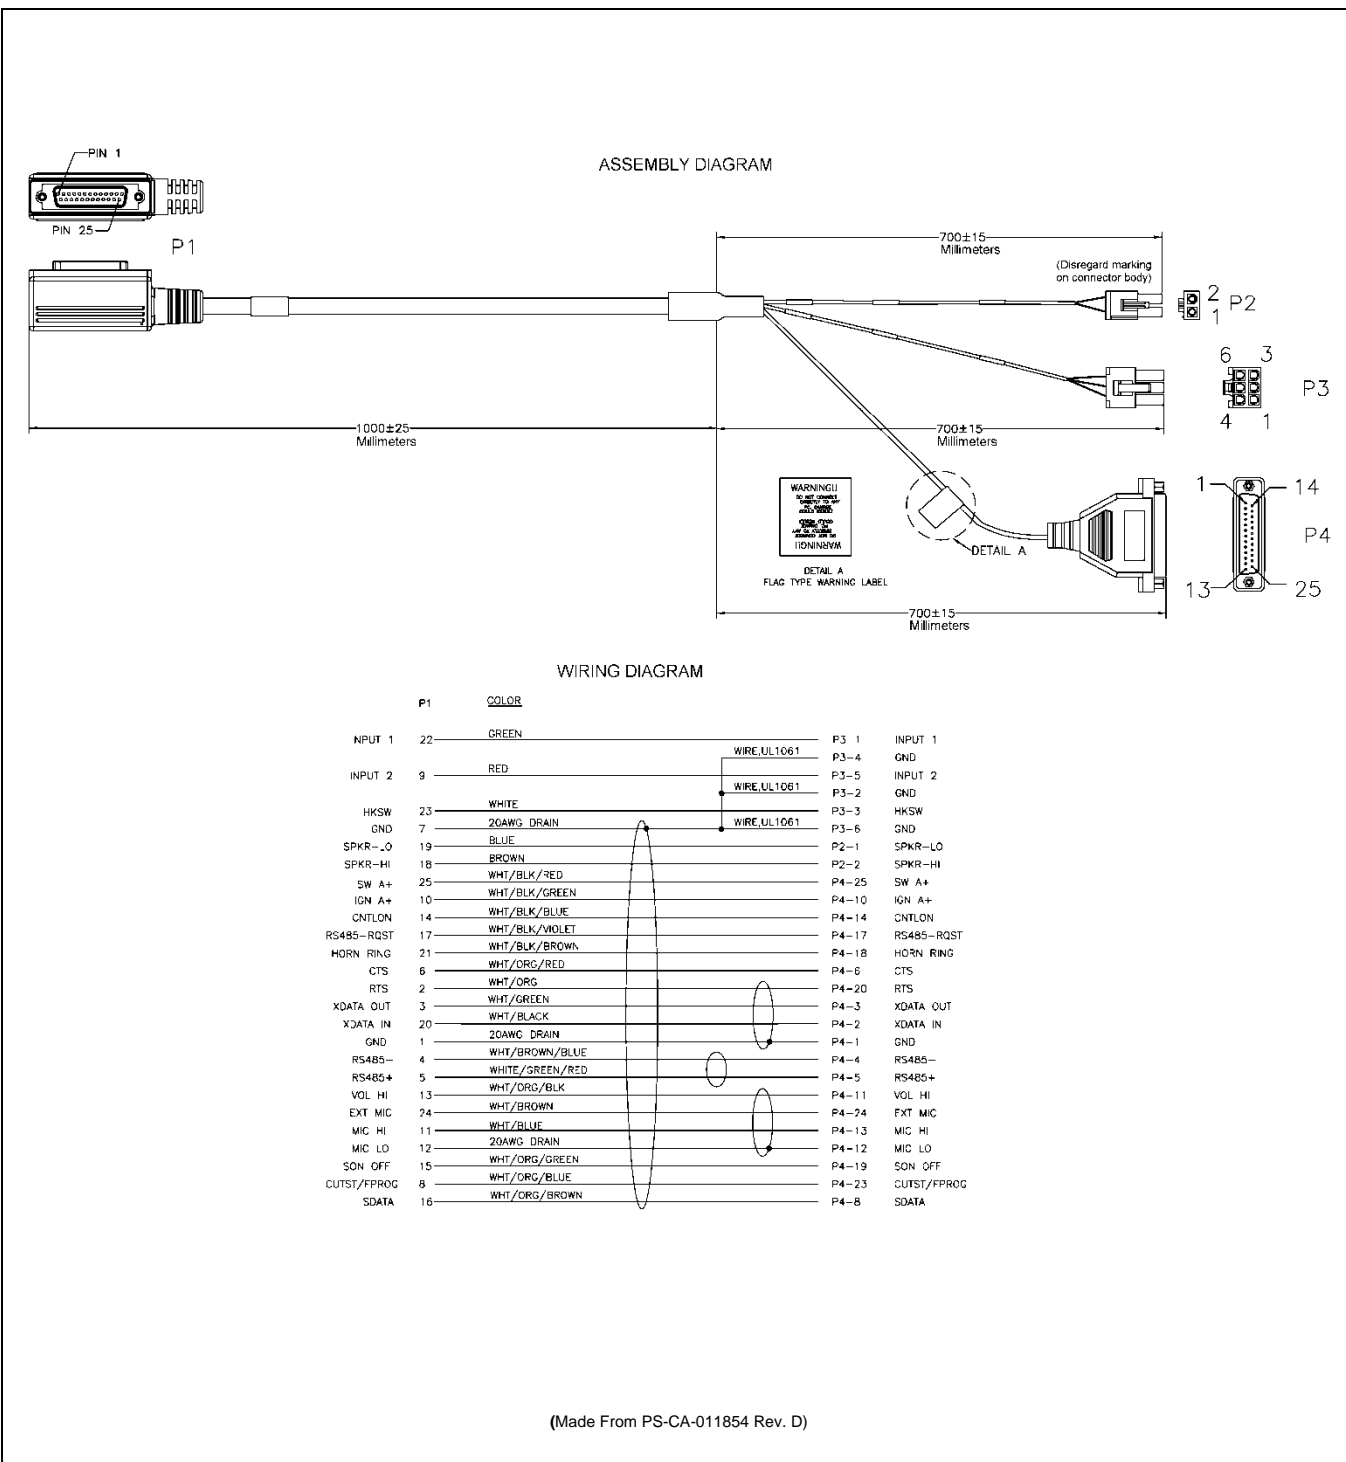

Figure 11-2: CH-721 Option Cable CA-011854-001
CH-721 Option Cable CA-011854-001 can be used to connect optional equipment to the 25-pin D-subminiature (DB-25) connector on the rear of the CH-721. This cable expands the connections available at the 25-pin connector to three (3) separate connectors. The cable's assembly and wiring diagrams are shown in Figure 11-2 below.